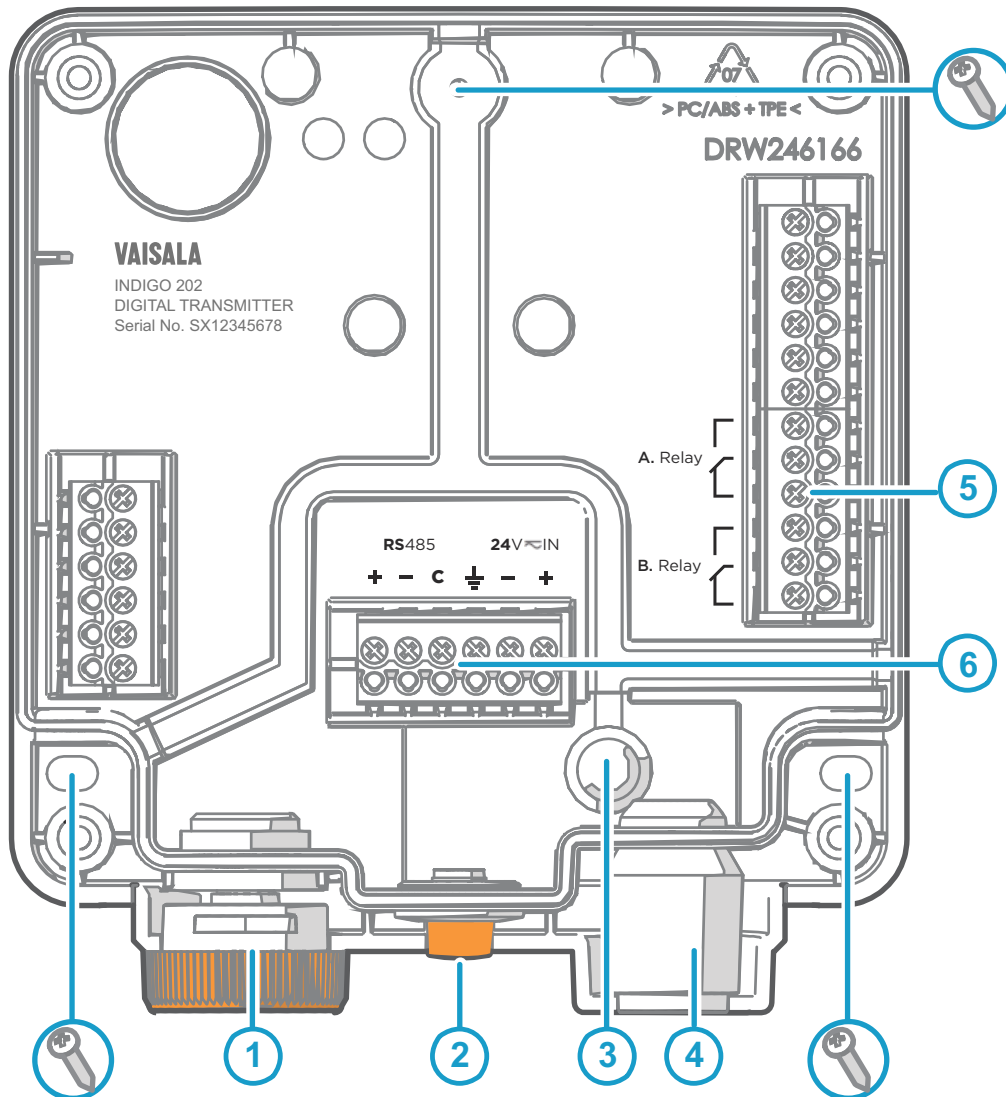

Figure 8 Indigo 202 Transmitter Base Main Parts and Screw Positions
4. Place the transmitter base on the installation surface and mount it with 3 screws. See the screw positions in Figure 8 \(page 18\).